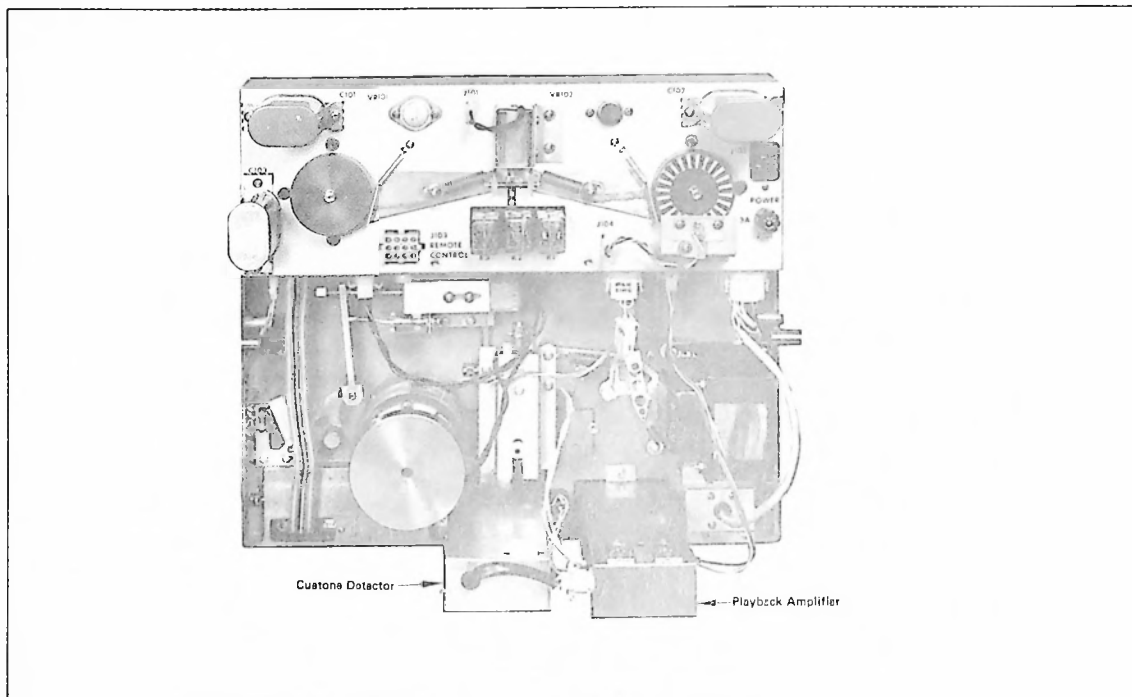

Figure 6-8. 255 Series Reproducer (Rear View)
6.40 Relay K1 can be used by the user to start up additional reproducer units, and the output from Q2 is used as a Stop command to turn off the reproducer that is running out of tape. However, the Stop command can be delayed, after the 25 Hz tone is detected, anywhere from 1/2 second to six seconds by adjusting trim pot R1. The sensitivity trim pot R2 is used to adjust at what point the relay is to energize. (Refer to paragraph 7.25, step (f), for the adjustment procedure on the cuetone detector.) See Figure 6-8.